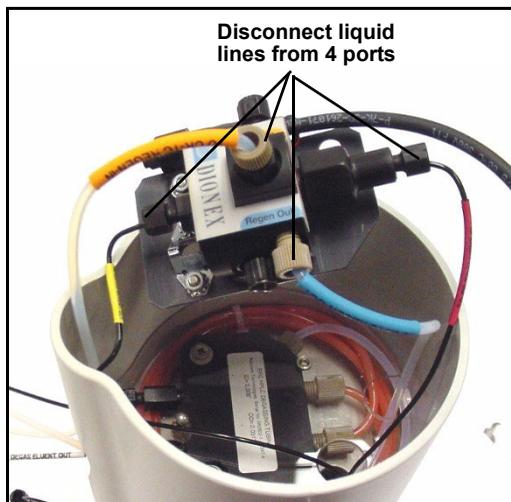

Figure 5-40. Disconnecting CR-TC Liquid Lines
7. Disconnect the liquid lines from the four ports on the CR-TC (see Figure 5-40).
13. Disconnect the liquid lines from the four ports on the CR-TC (see Figure 5-40).